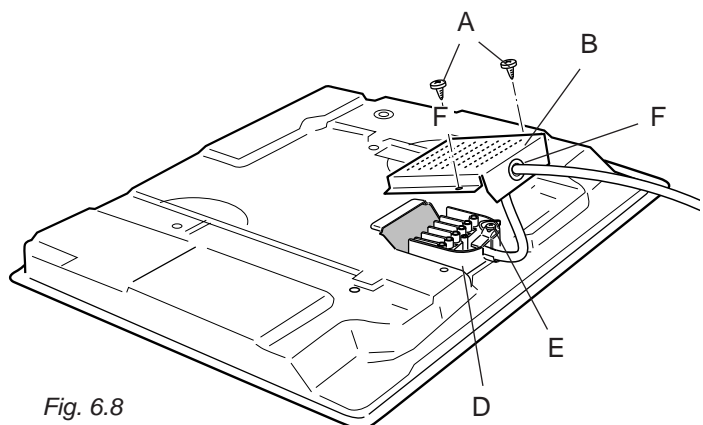

Fig. 6.8
- ✓ Unscrew screws "A" and remove protection "B" (Fig. 6.8)
- ✓ Unscrew cable clamp "E" (Fig. 6.8)